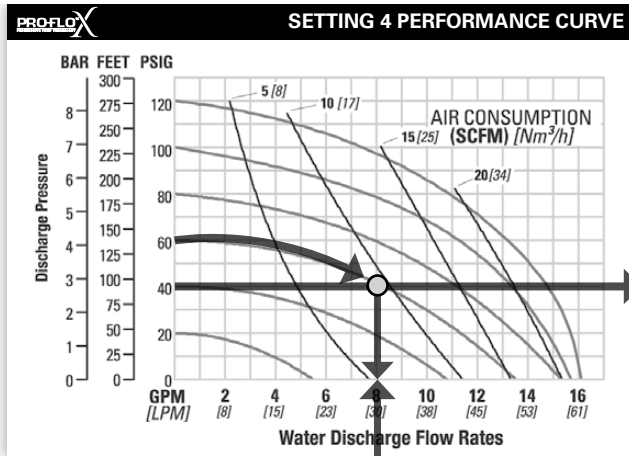

Figure 1
FIGURE 1 The air valve directs pressurized air to the back side of diaphragm A. The compressed air is applied directly to the liquid column separated by elastomeric diaphragms. The diaphragm acts as a separation membrane between the compressed air and liquid, balancing the load removes mechanical stress from the diaphragm. The compressed air moves the diaphragm away from the center of the pump. The opposite diaphragm is pulled in by the shaft connected to the pressurized diaphragm. Diaphragm B is on its suction stroke; air behind the diaphragm has been forced out to atmosphere through the exhaust port of the pump. The movement of diaphragm B toward the center of the pump creates a vacuum within chamber B. Atmospheric pressure forces fluid into the inlet manifold forcing the inlet valve ball off its seat. Liquid is free to move past the inlet valve ball and fill the liquid chamber (see shaded area).
Step 1: Identifying performance at setting 4. Locate the curve that represents the flow rate of the pump with 4.1 bar (60 psig) air inlet pressure. Mark the point where this curve crosses the horizontal line representing 2.8 bar (40 psig) discharge pressure. (Figure 1). After locating your performance point on the flow curve, draw a vertical line downward until reaching the bottom scale on the chart. Identify the flow rate (in this case, 8.2 gpm). Observe location of performance point relative to air consumption curves and approximate air consumption value (in this case, 9.8 scfm).